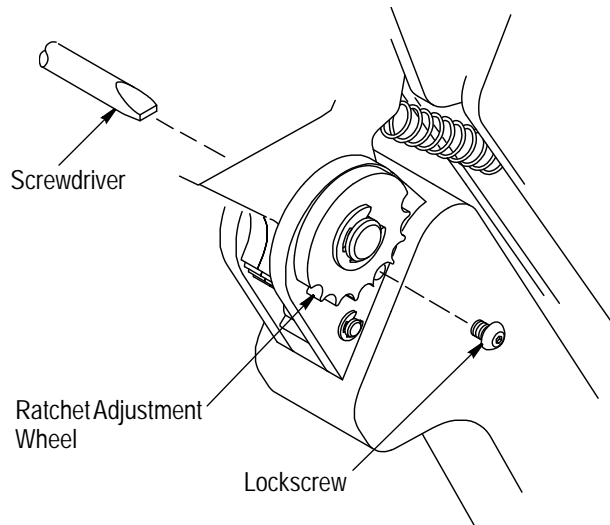

Figure 6
**6. RATCHET (SHUT HEIGHT) ADJUSTMENT** (Figure 6)